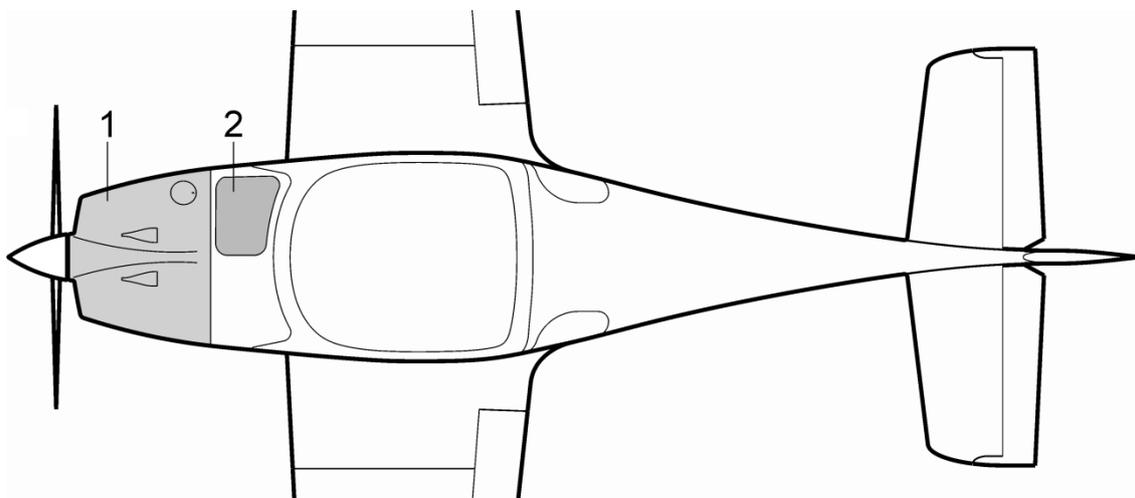

Fig. 1 Covers
- (b) Remove upper engine cowling (1, Fig. 1).
- (c) Remove the bolts and the parachute cover (2).
(cc) Install the parachute cover (2, Fig. 1) and tighten bolts.